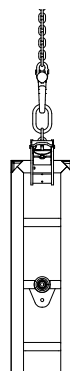

Fig. 4b
- For panel widths 30 cm: position one Lifting Hook in the middle. (Fig. 4b)